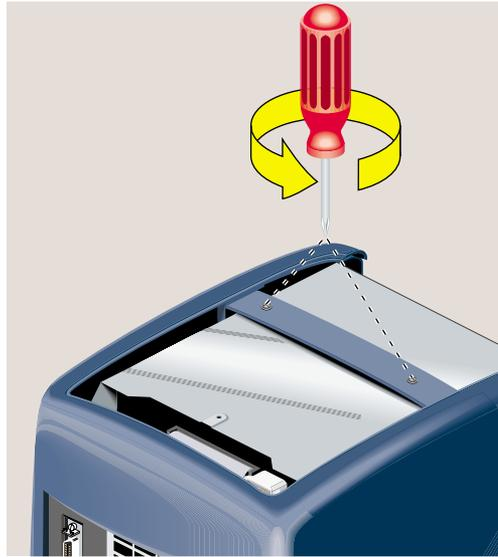

Figure 5-48 Removing the Three Phillips Screws
6. Use a Phillips screwdriver to remove the two screws that secure the outer cover (Figure 5-48).